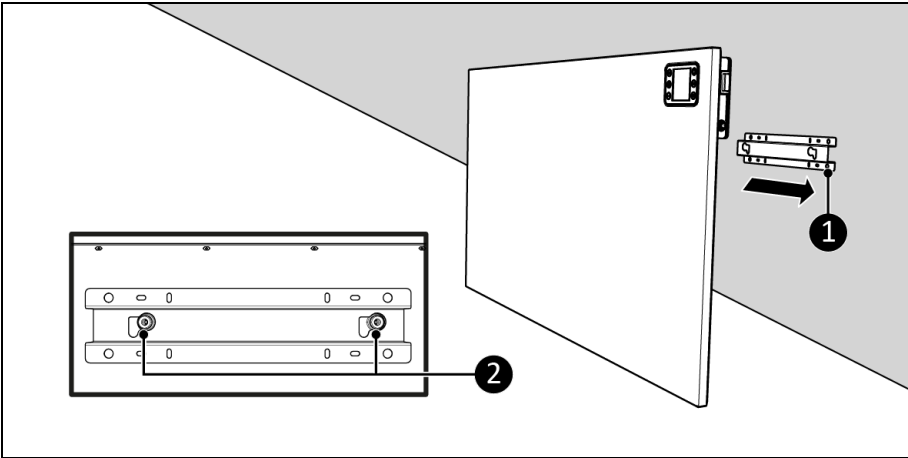

Figure 13
9. Place the device bracket (Figure 13, pos. 2) over the wall bracket (Figure 13, pos. 1).